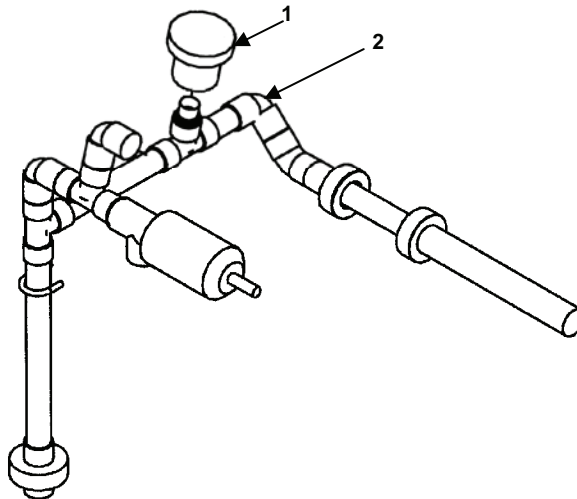

Figure 10. Vacuum Relief Valve.
2. Remove vacuum relief valve (Figure 10, item 1) by unthreading it from the piping (Figure 10, item 2).
1. Refer to Figure 10 for this procedure section.
2. Thread the vacuum relief valve (Figure 10, item 1) onto the tank vent piping (Figure 10, item 2).